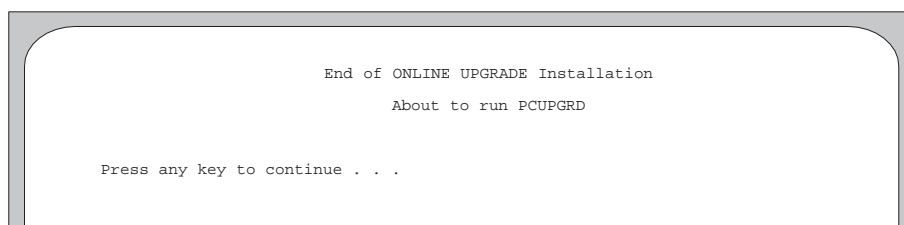

Figure 13-4. Screen for the End of ONLINE UPGRADE Installation.
7. Press any key. The names of the upgrade files are displayed on the screen as they are copied onto the PC hard drive. When the upgrade-tool installation is complete, the screen shown in Figure 13-4 appears.